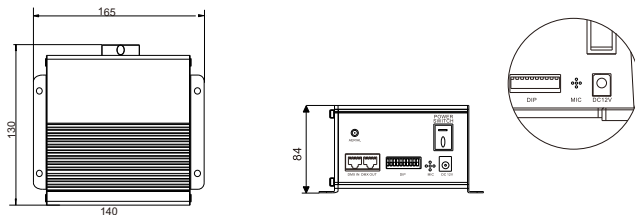

Fig.1
2. Installation dimension of light engine (see Fig.1):